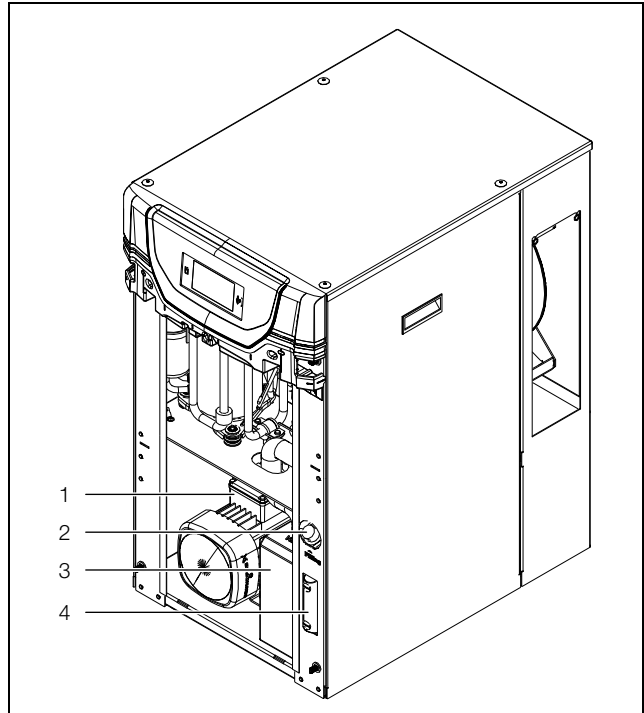

Fig. 38: Filling the cooling medium
- Fill the chiller tank with cooling medium via the fill nozzle (fig. 38, item 2).
- Check the fill level on the inspection glass (fig. 38, item 4).